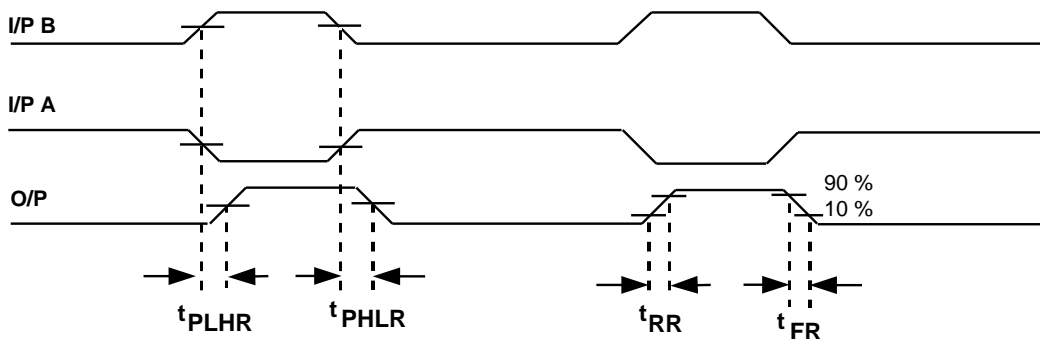

Figure 4. Receiver Waveforms
**Test Conditions:**  $V_{CC} = 5V \pm 5\%$ ,  $V_{EE} = -5V \pm 5\%$ ,  $T_A = 0^\circ\text{C}$  to  $70^\circ\text{C}$  (see figure 4)